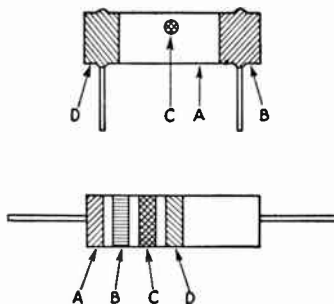

Fig. 20-6—Color coding of fixed composition resistors. The color code is given in Table 20-III. The colored areas have the following significance:
Composition resistors (including small wire-wound units molded in cases identical with the composition type) are color-coded as shown in Fig. 20-6. Colored bands are used on resistors having axial leads; on radial-lead resistors the colors are placed as shown in the drawing. When bands are used for color
Examples: A resistor of the type shown in the lower drawing of Fig. 20-6 has the following color bands: A, red; B, red; C, orange; D, no color. The significant figures are 2, 2 (22) and the decimal multiplier is 1000. The value of resistance is therefore 22,000 ohms and the tolerance is ± 20%.